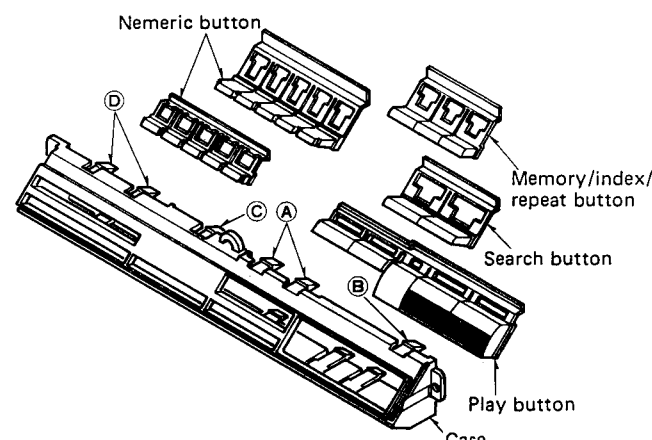

Fig. 5
5. Search button can be removed by releasing the claw A in Fig. 5.
6. Play button ass'y can be removed by releasing the claw B in Fig. 5.
7. Memory/index/repeat button can be removed by releasing the claw C in Fig. 5.
8. Numeric button can be removed by releasing the claw D in Fig. 5.